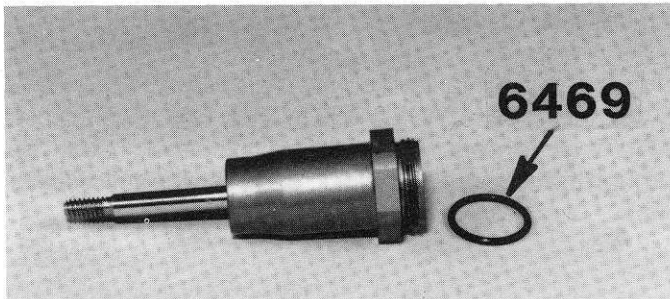

Fig. 117
- **Fig. 117** Slip the #6469 black O-ring over the threads and seat it against the pocket at the bottom of the threads.